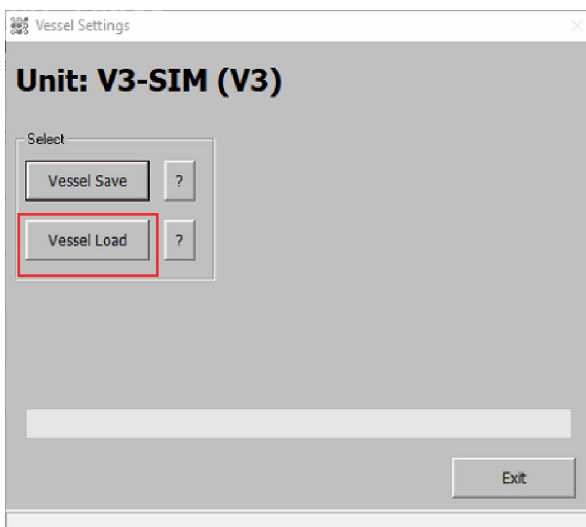

Figure 3.2. Vessel Settings.
1. From the **Configuration** screen, open **Vessel Settings Management**. Then click **Vessel Load** (Figure 3.2).